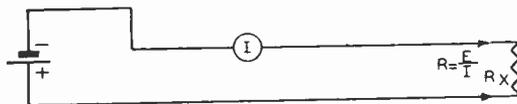
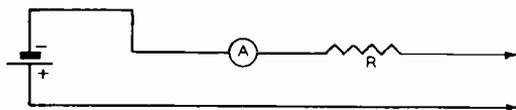
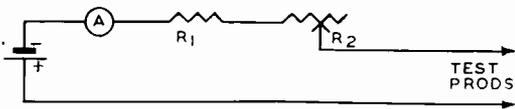

Fig. 4
Fig. 5
Fig. 6
would be simply the voltage divided by the current reading of the meter. This is illustrated in Fig. 4. But suppose the value of resistance was extremely low. Then, there would be no protective resistance in the circuit to limit the amount of current that would flow in the meter. Because of this, the meter might be burned out. To avoid burning out the instrument we may use a protective series resistance (R) in the circuit. This arrangement is shown in Fig. 5. Now, our current meter becomes in effect a simple voltmeter.
Now the test probes shown in Fig. 5 may be connected across a circuit to check its resistance.
in the circuit of Fig. 5 is fixed. We can overcome this disadvantage by using an adjustable circuit resistance as shown in Fig. 6. Here, R_2 is a fixed resistor and is adjustable. Therefore, even though the cell potential does drop we will still be able to use the circuit efficiently. The meter does not burn out when R_2 is set at zero resistance value because protective resistance R_1 is still in the circuit.
Practical factory made ohmmeters which servicemen use may be relatively complicated in circuit design and construction, in comparison with this simple circuit. It would not be practical to build the circuit in Fig. 6 as it would not check all resistance values found in receivers. It is shown here to aid you in understanding how continuity tests are made.